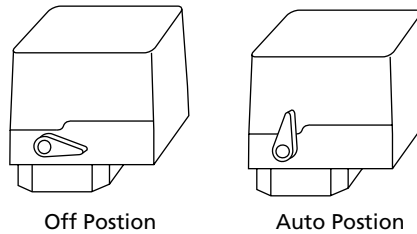

Figure 2
5. This product is for use on a nominal 120 volt circuit and has a grounding plug that looks like plug illustrated in Figure 2. Make sure that product is connected to an outlet having same configuration as plug.